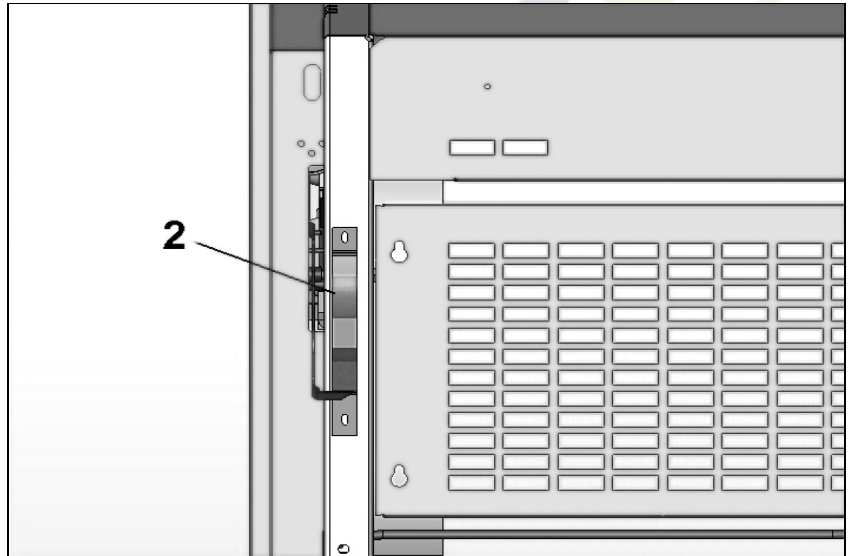

Fig. 4
Refer to the indicator (no. 2 Fig.4) for this and see p.16 item 9.